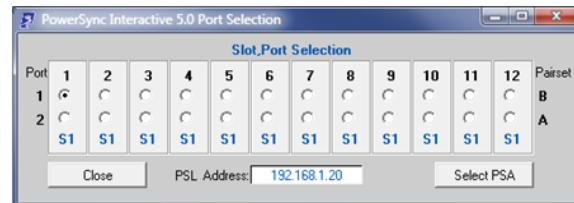

Figure 4.2 PSA Interactive Slot-Port Panel
- The Slot-Port Selection Panel (see **Figure 4.2**)